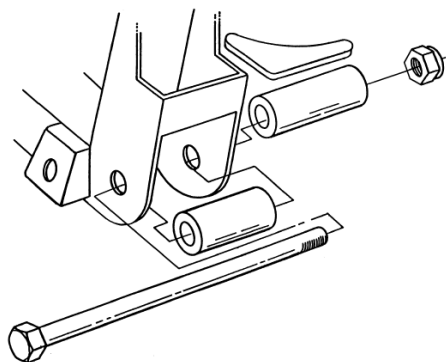

Figure 1- Crossmember Spacers Install
4. If you purchased a complete I.F.S. Package from HEIDTS, it was supplied with Full Lower A-Arms. Begin by installing the Spacers onto the crossmember. The holes where the lower control arms attach to the Crossmember must be enlarged to 5/8". Mount the Crossmember Spacers and the Rear Spacers which were supplied with the Lower Control Arms onto the Crossmember as shown in **Figure 1** using the supplied Inner Bushing Bolts, Nuts and a temporary spacer under the Nuts. DO NOT use the A-Arms for this operation as the welding heat will melt the rubber bushings. Tighten the Bolts and Nuts tight. Weld the Rear Spacers to the Crossmember all around. Weld the Crossmember Spacers as far as possible inside the crossmember on both ends. Position the Gussets horizontally, not vertically, against the Rear Spacers and the back of the Crossmember. Weld Gussets to Spacers and Crossmember. When it cools, remove the bolt.